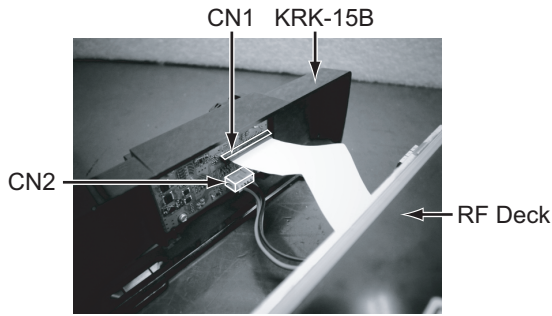

Fig.2
- (1) Insert the cable into the interface unit (XC3-0090-20) connector (CN2) of the KRK-15B.
- (2) Insert the flat cable into the interface unit connector (CN1) of the KRK-15B. (Fig. 2)